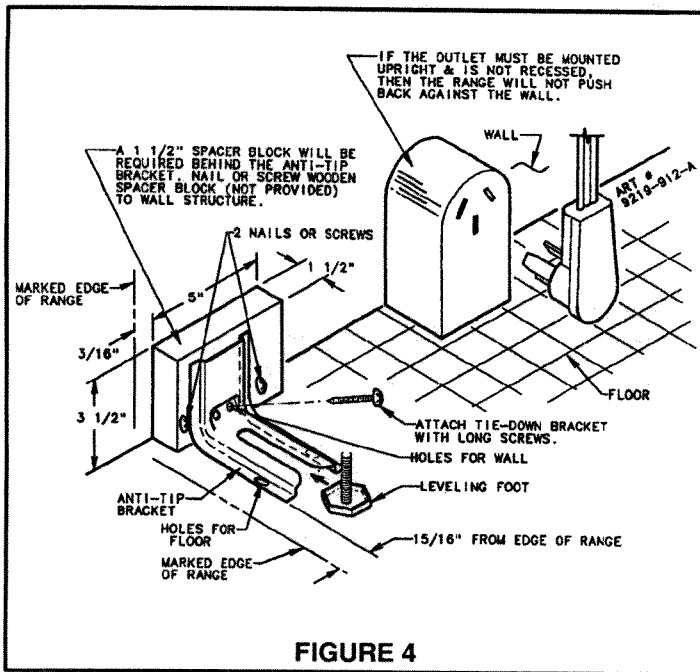
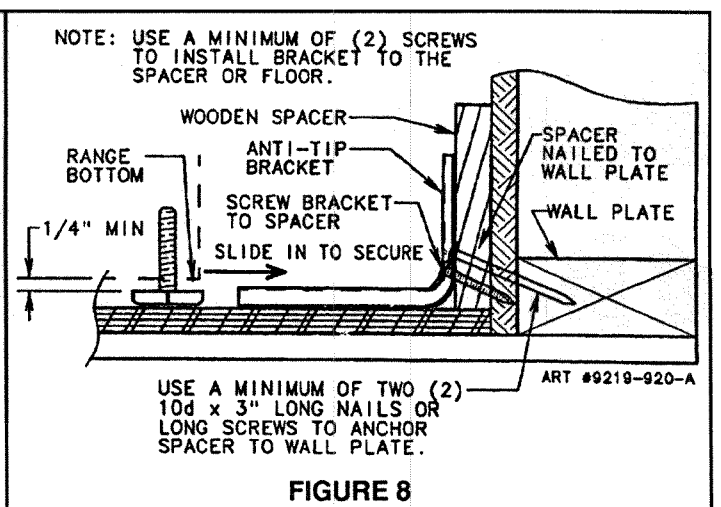

FIGURE 4
FIGURE 8
### Installations with alternate outlet locations (see figures 4 through 6.)
- Place the bracket 15/16” from the marked “EDGE” toward the center of opening and against the spacer as shown in figures 4 through 6, as applicable. (See figures 4 through 6 for information on appropriate spacer sizes. See figure 8 for information on securing of spacer.)
- Use the bracket as a template and mark the required holes, as shown in figure 4 through 6, for the type of construction you will be using.